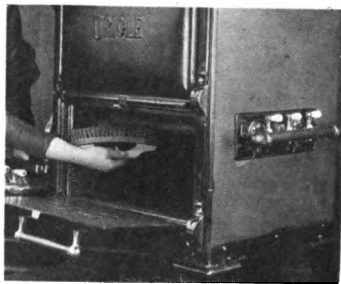

FIG. 5. Cleaning gas stove.
**14. Cleaning the Stove.** Housekeepers should keep their gas stoves clean. Dirt interferes with the passage of the gas thru the burners. Gas stoves should be cleaned thoroly once a month. Scrub the burners with a stiff brush (Fig. 5), and wash all greasy parts with soap and water. If the holes should be clogged, remove the stoppage with a wire hair-pin (Fig. 6). Clean the drip sheet every day, or as often as it becomes soiled. (Fig. 4.)